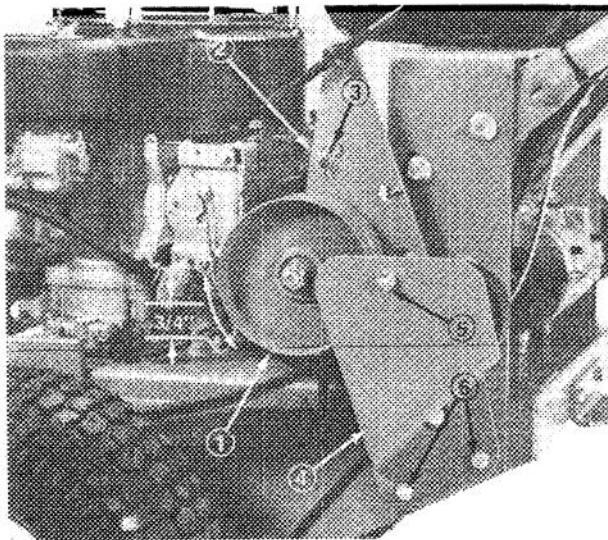

Figure 22
1. Check travel of idler pulleys when fully engaging wheel belts. Pulley travel should be approximately 3/4" (Fig. 22).
1. Remove top cap screw securing idler support and idler bracket to rear frame (Fig. 22).
2. Loosen bottom two mounting screws enough to allow belt to pass between drive pulley and idler support (Fig. 22).